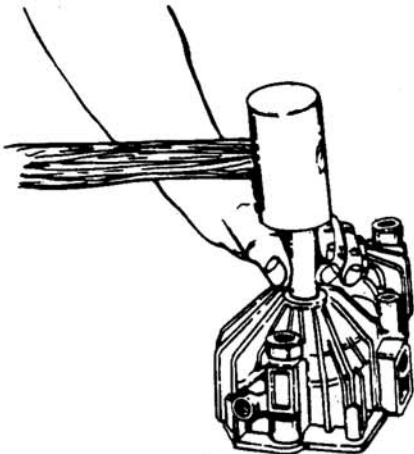

Figure 6-41. Pressing Shaft Into Housing
- d. Press shaft into the housing. See Figure 6-41.